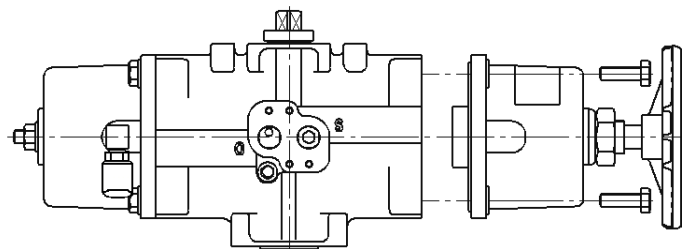

Fig.16
- (4) Mount the FSW unit on the end cover opening of the housing, ensuring that the O-ring does not swell out through the contact of the unit with the housing (**Fig.16**).